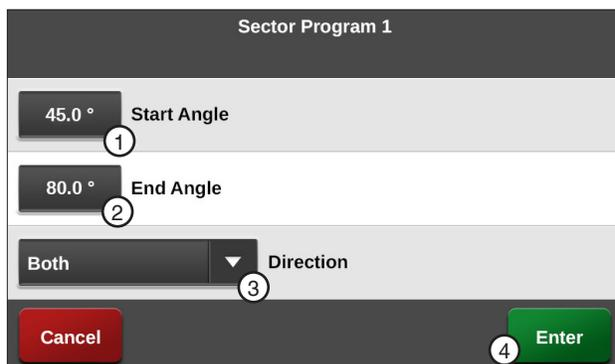

Figure 150-3 1. Start Angle 3. Direction Drop-Down
3. Select the **Start Angle** field. Refer to Figure 150-3.